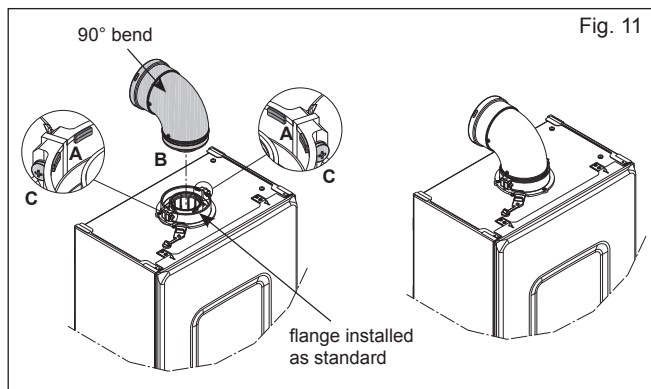
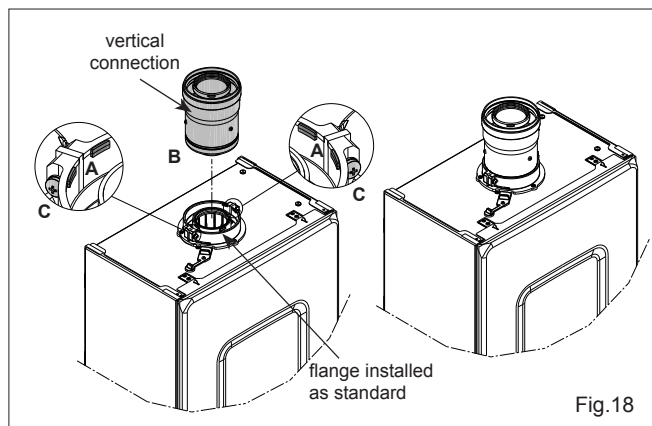

Fig. 11
Fig. 18
NOTE: The appliance incorporates a 'click-fit' flue connection (see fig. 11). Ensure that both screws 'C' (fig. 11) on the 'click-fit' have been slackened off. Ensure that the bend is correctly aligned with the connector and insert the flue bend into the connector until it clicks into position (this is when the tabs at points 'A' are located in the groove of the flue bend - see fig. 11). Both screws (C) should now be tightened.
NOTE: The appliance incorporates a 'click-fit' flue connection (see fig. 11). Ensure that both screws 'C' (fig. 11) on the 'click-fit' have been slackened off. Ensure that the bend is correctly
aligned with the connector and insert the flue bend into the connector until it clicks into position (this is when the tabs at points 'A' are located in the groove of the flue bend - see fig. 11). Both screws (C) should now be tightened. The additional bends & extensions have push-fit connections, care should be taken to ensure that the correct seal is made when assembling the flue system. Connect the required number of flue extensions or bends (up to the maximum equivalent flue length) to the flue terminal (see fig. 11-14). The flue system should have a 3° rise from the boiler to outside, to ensure any condense fluid that forms, is allowed to drain back to the appliance.
NOTE: The appliance incorporates a 'click-fit' flue connection (see fig. 18). Ensure that both screws 'C' (fig. 11) on the 'click-fit' have been slackened off. Ensure that the connector is correctly aligned with the 'click-fit' and insert it into the 'click-fit' until it
clicks into position (this is when the tabs at points 'A' are located in the groove of the vertical flue connector - see fig. 18). Both screws (C) should now be tightened.